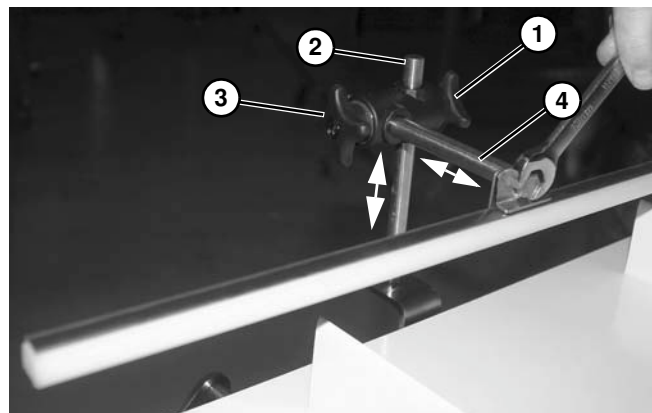

Figure 47
4. Loosen knob (**Figure 47, item 1**), and adjust the guide post (**Figure 47, item 2**) height, as needed. Tighten knob.
5. Loosen knob (**Figure 47, item 3**), and adjust the horizontal guide post (**Figure 47, item 4**) and guide rail, as needed. Tighten knob.